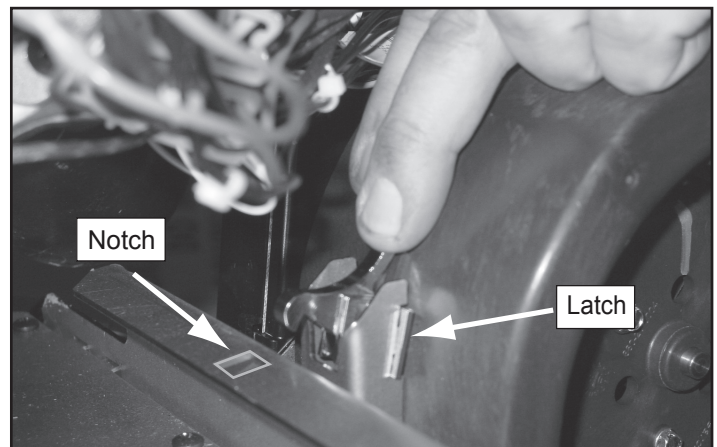

Figure 31.2
1. After the sides are removed, reach behind the blower and release the latch by pushing the top of the latch towards the blower. **Figure 31.2**.